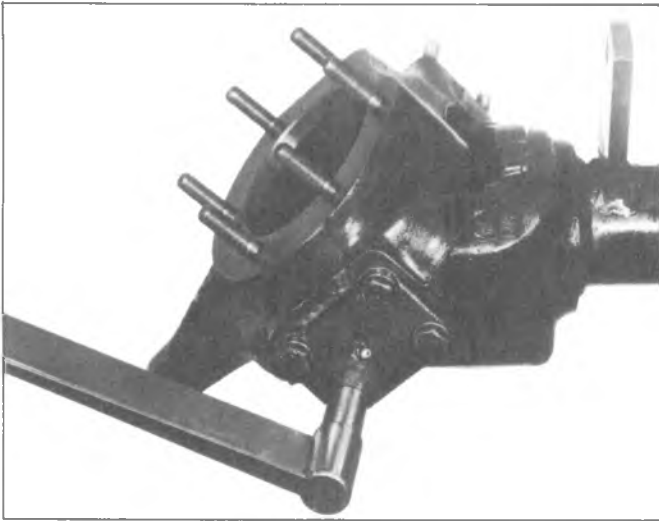

Fig. 3C-28K--Installing Lower Bearing Cap-and-King Pin
5. Assemble lower bearing cap-and-king pin with four cap screws. Tighten cap screws alternately and evenly; see Figure 3C-28K. Torque cap screws to 70-90 ft. lbs.